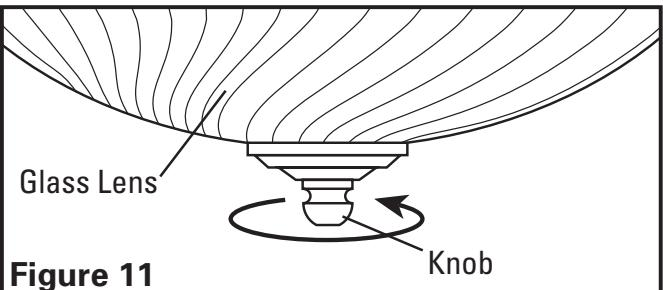
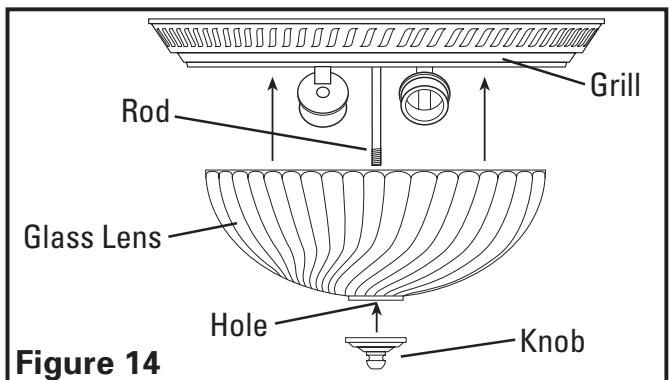

Figure 11
Figure 14
2. Remove glass light lens from grill by unscrewing knob at the top of lens (**Figure 11**).
6. Reinstall the glass lens in place by sliding the hole in the lens onto the rod from the grill and securing in place with the lens knob (Figure 14).
3. **Changing the Light Bulb:** Disconnect power to the unit. Remove glass light lens from grill by unscrewing knob at the top of lens (Figure 11). Replace light bulb(s) with 60 watt maximum, type A19 medium base incandescent bulb(s). Reinstall the glass lens in place by sliding the hole in the lens onto the rod from the grill and securing in place with the lens knob (Figure 14).